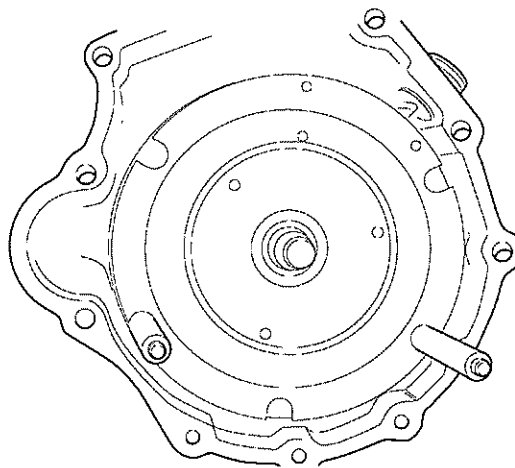

Fig 12 Converter Extraction
21.2 Remove converter retainer (see Table 1, Ser 1) from converter housing. Fit converter extractors (see Table 1, Ser 5) to converter and remove (see Fig 12).
- 25.2 Remove converter using converter retainer (see Table 1, Ser 1) from housing. Fit converter extractors (see Table 1, Ser 5) to converter and remove (see Fig 12).